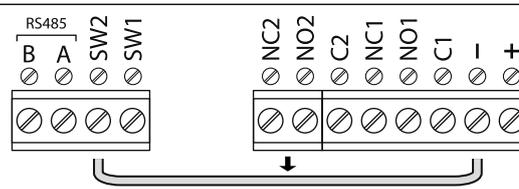

Fig. 15
6. Release button 1  and remove the short between terminals - and SW2, see **Fig.15**, page 16;
6. Release button 2  and remove the short between terminals - and SW2, see **Fig.15**, page 16;
5. After the red status LED stops flashing remove the short between terminals - and SW2 (**Fig.15**, page 16) the unit ID has been set.
5. Release the **ENTER**  button then remove the short between terminals - and **SW2**, see **Fig.15**;